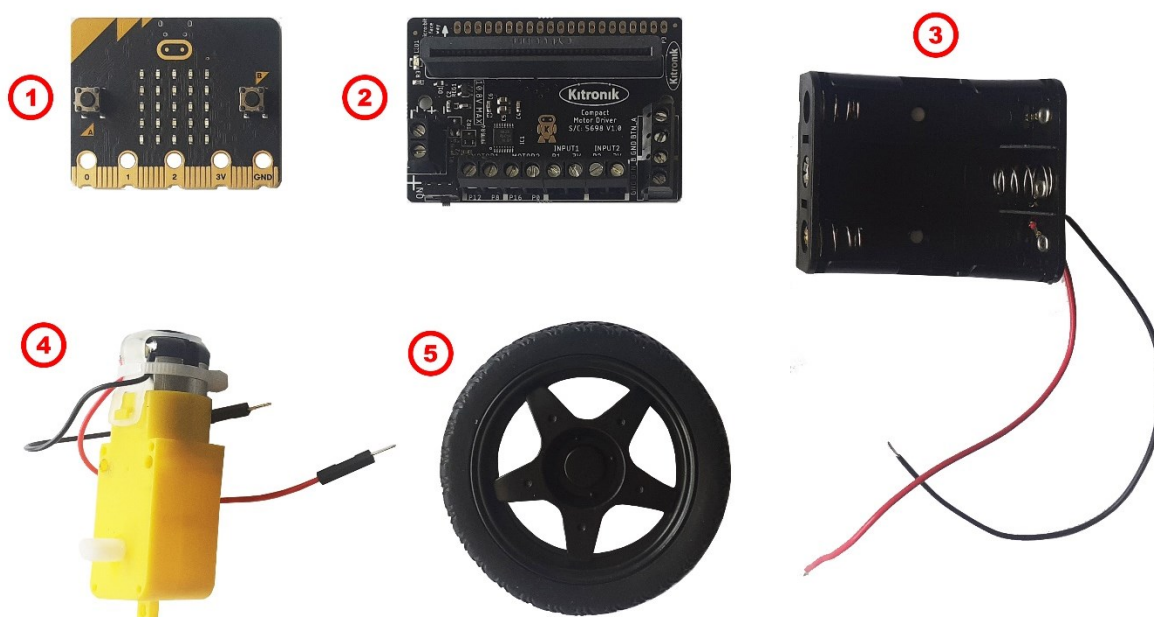

Figure 42: The electronic components needed for creating the robotic car
Figure 42 presents the basic electronic components that you need for creating the robotic car. In particular, you will need a BBC micro:bit microcontroller (1), a Kitronik Compact Motor Driver (2), a 3AA (or 4AA) battery holder (preferably with pre-attached wires) (3), 2 DC gear motors (preferably with pre-attached wires) (4) and 2 wheels (5).